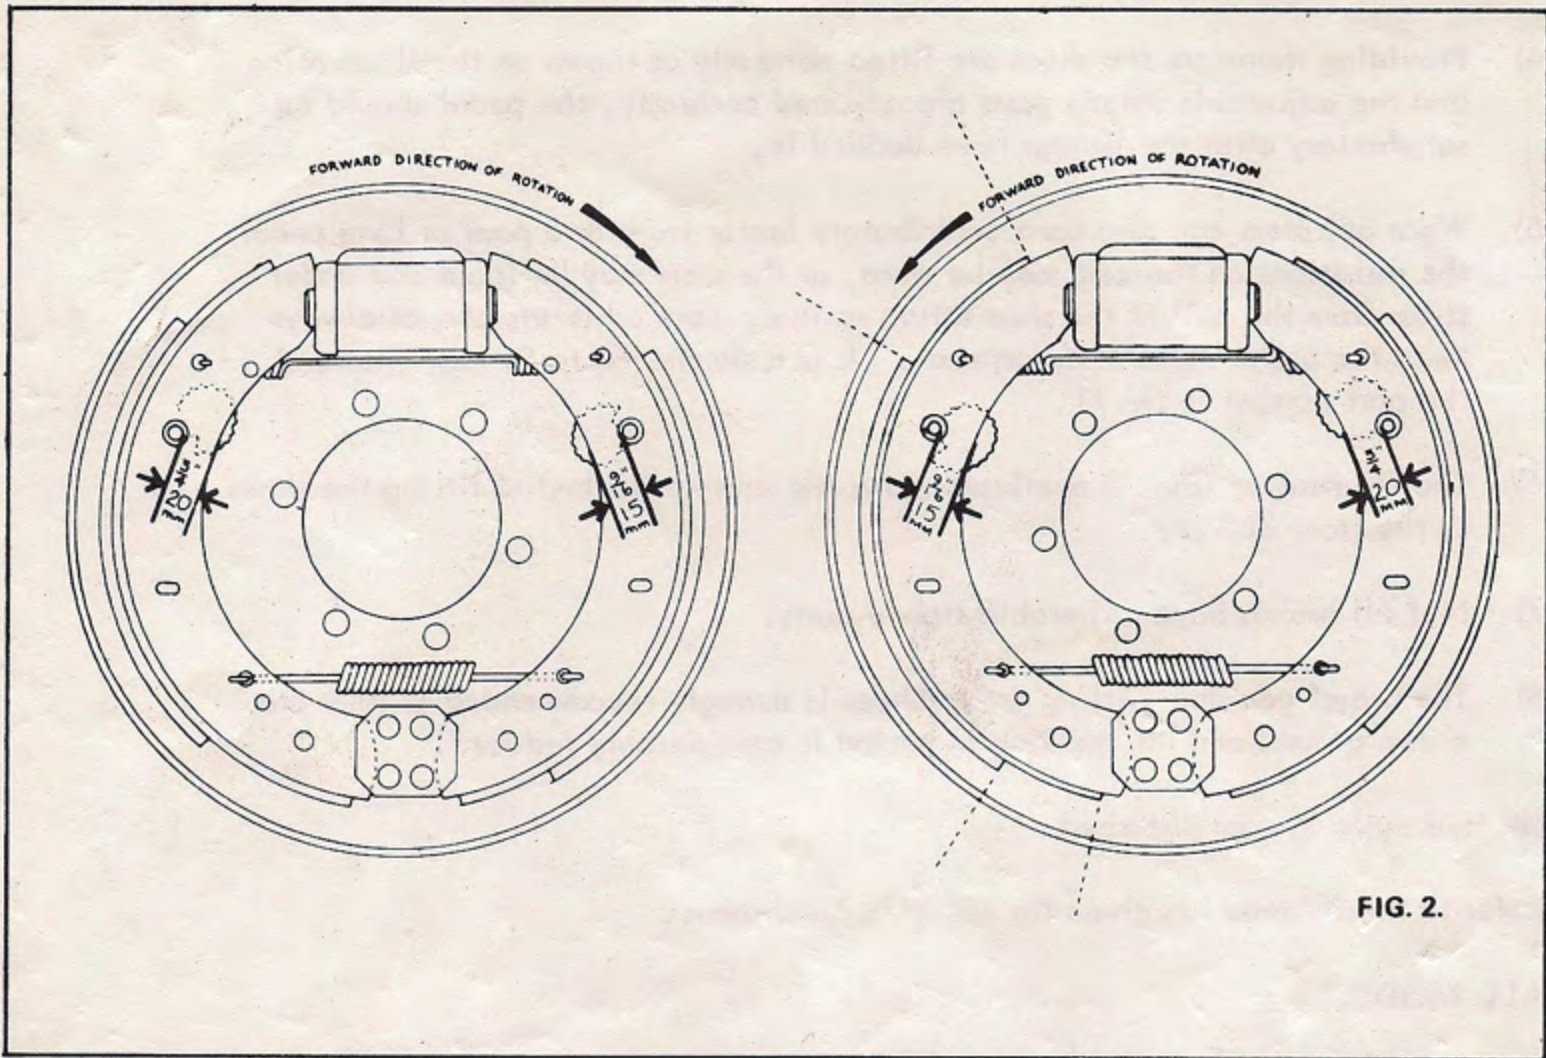

FIG. 2.
- 3) The illustration (Fig. 2 on page 4) shows the rear brake shoes correctly fitted with the lining appearing to be dispelled on the shoes in the forward direction of rotation. The differences between the shoes on the brake are the position of the lining on the shoe web and the position of the shoe pin which abuts the snail cam adjuster.